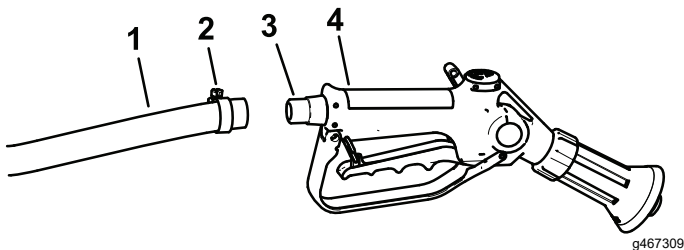

Figure 47
3. Connect the free end of the long hose to the fitting on the spray gun (Figure 47).